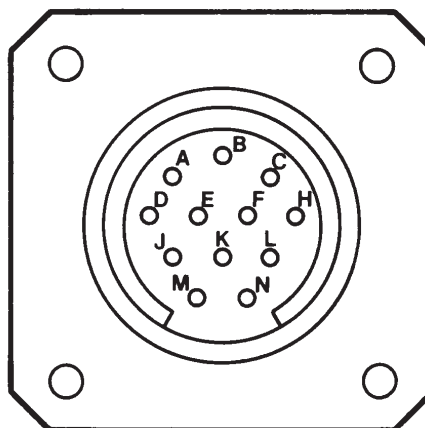

Figure 2-1 Electrical Pinout Connections
The 0550E is equipped with a precision 5V reference ($\pm 0.2\%$). The reference voltage is available at terminal D (Refer to Figure 2-1) for use in conjunction with potentiometer (1k ohms minimum) to provide a 0-5 Vdc command.
The command input hook-up is as follows: Connect the external command voltage to terminal F, (command input) and to terminal E (command input return). (Refer to Figure 2-1).
The valve override function allows full opening and closing of the valve independent of the command setting. The valve override function can be accessed from terminal H. (Refer to Figure 2-1).
- a. After the flow controller has been installed in the flow system and the connecting cable attached (refer to Figure 2-1), apply power, set the command to 100% and purge the controller with nitrogen for a minimum of 15 minutes. This is most important if the process gas contains elements which react with the air components to form corrosive or precipative mixtures. This also helps preserve the accuracy and life of the controller. This purge should also be performed when a controller is removed from a reactive, corrosive, or toxic process gas line.